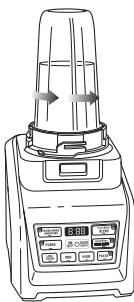

Fig. 5
- 9 Once you have reached your desired consistency, stop the appliance by pressing the power button and wait for the Pro Extractor Blades Assembly to stop turning. Turn the Nutri Ninja® cup anticlockwise and pull straight up to remove. (Fig. 5, Fig. 6)